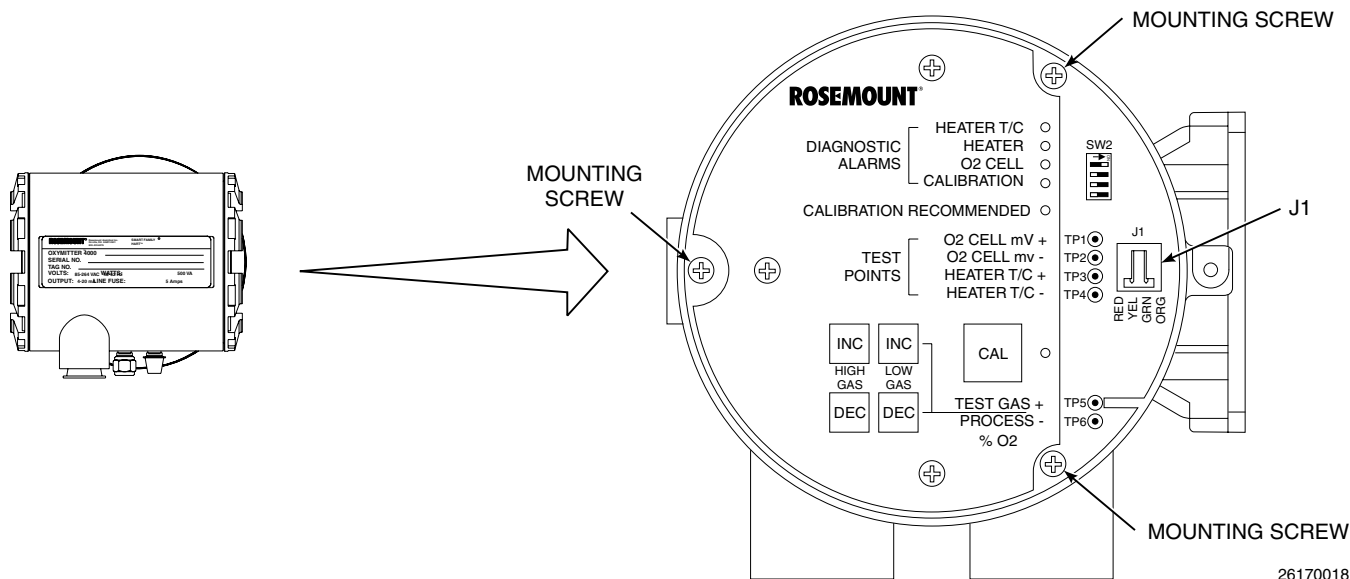

Figure 6-5. Electronic Assembly
2. Remove the right housing cover uncovering the electronic assembly (Figure 6-5).
b. Electronic Assembly Replacement. (Figure 6-5).
d. Fuse Replacement (Figure 6-5).